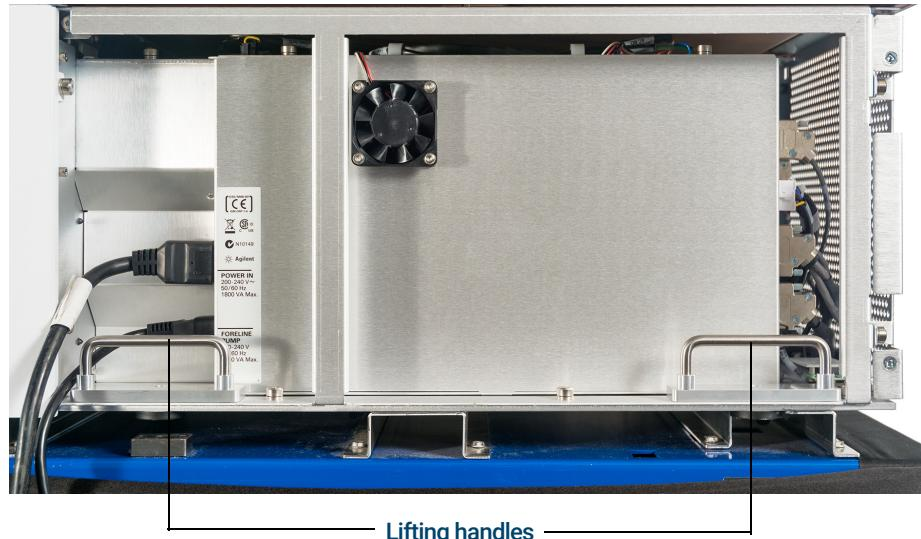

Figure 15. Left side lifting handles
- 5 Remove this cover to access the handle. (See **Figure 15**.)